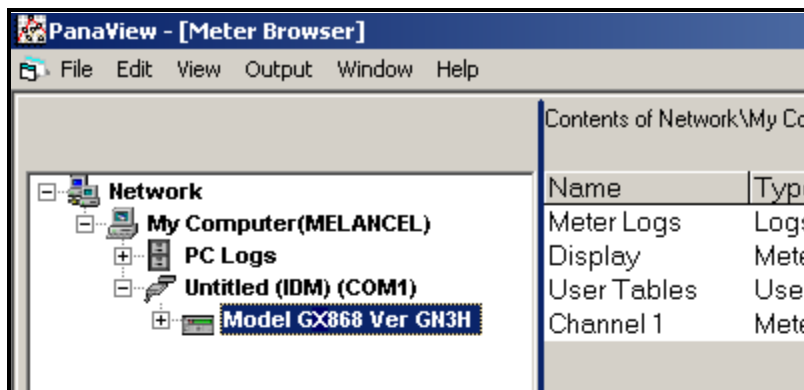

Figure 22: The Updated Network Tree
If the initialization is successful, the Meter Browser shows a listing similar to Figure 22.
1. Highlight the meter (as shown in Figure 22 on page 94).